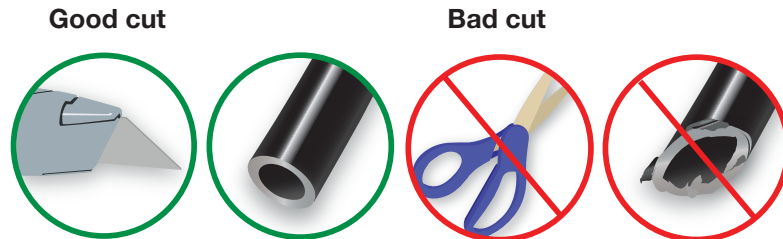

fig. 21
1. Cut the air line in half. Make clean, square cuts with a razor blade or hose cutter (Fig. 21). Do not use scissors or wire cutters.